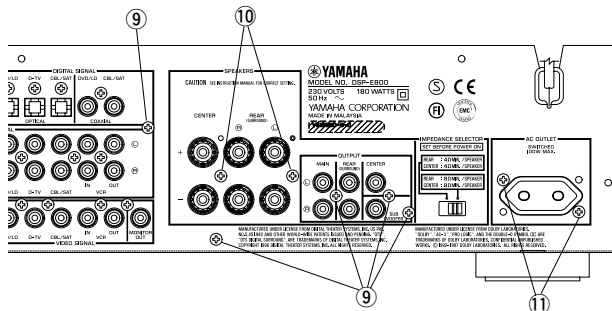

Fig. 5
- b. Remove 9 screws (⑨, ⑩, ⑪) indicated in Fig. 5.